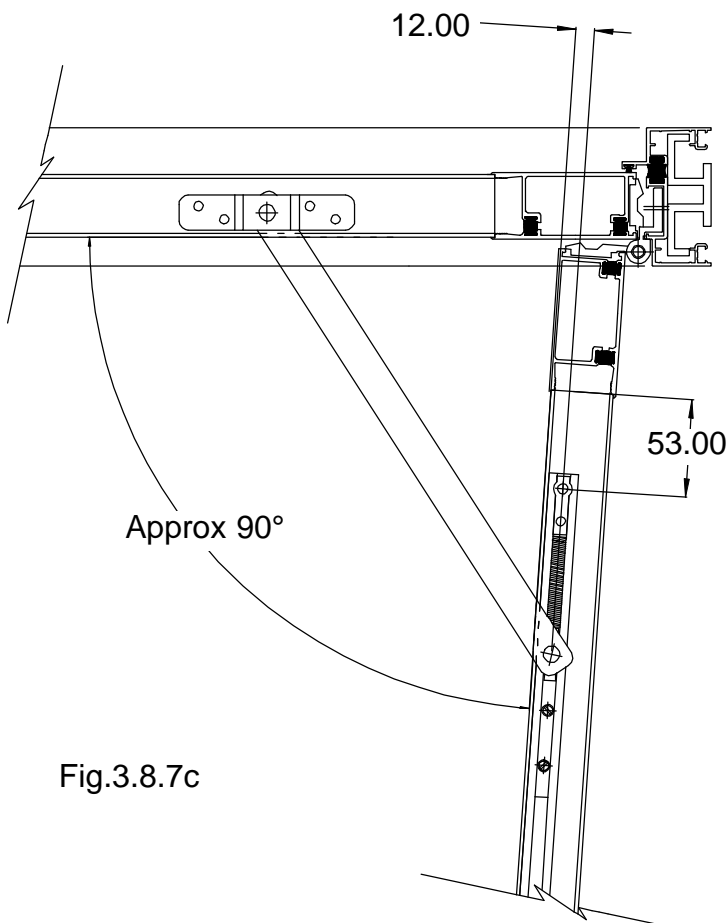

Fig.3.8.7c
The top rail fixing position will vary according to the desired restricted angle. Fig.3.8.7c shows approximate position for achieving 90° restriction.
- Positions shown in Fig.3.8.7c are an example of the approximate position for 90° restriction. Holes in top rail are to be drilled Ø3.50 to suit required angle.